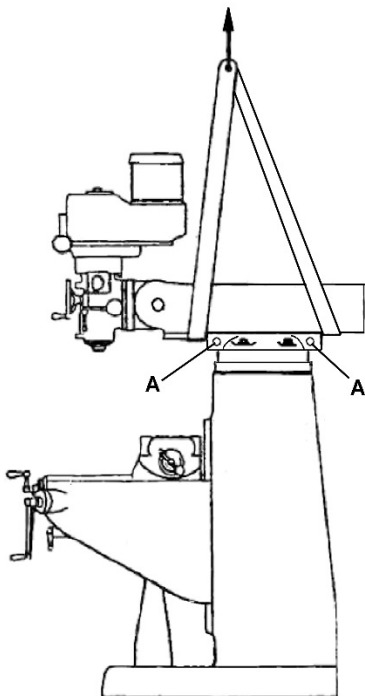

Figure 7-2: alternate lift - sling location
3. Check tightness of lock hex nuts on ram (A, Figure 7-2) to be **certain ram is tightly locked**.
An alternative method for lifting the mill is with a sling. See Figure 7-2 for proper position of sling under ram. Note position of ram and that table has been moved against column. Tighten ram locking nuts (A, Figure 7-2) before lifting.